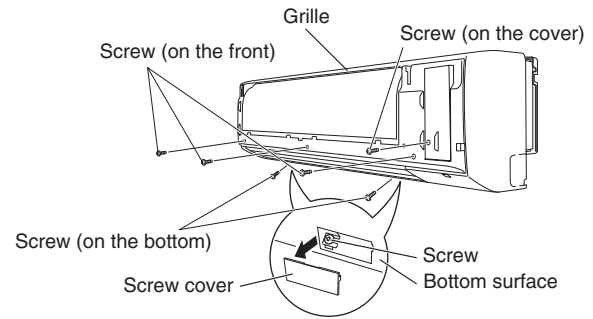

Fig. 3-13
- (3) Remove the 3 screws from the front of the unit and remove the screw covers on the bottom surface. Then remove the 2 screws. (Fig. 3-13)
- (4) Remove the screw on the right side cover plate and remove the cover. (Fig. 3-13)